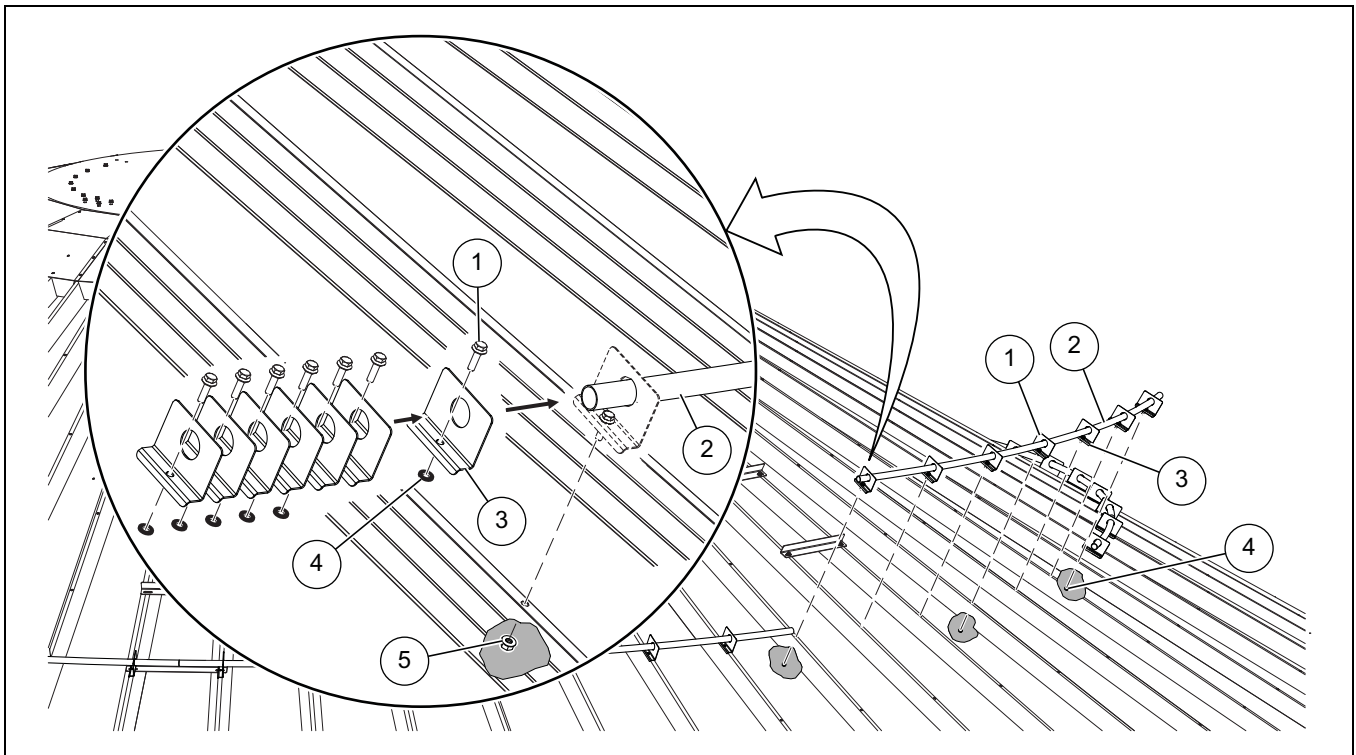

Figure 11E Roof Ring Shown
1. Determine the quantity of roof ring clips (3) needed for the roof ring section (2) being installed.
2. Install a 5/16" flange bolt (1) to the roof ring clip (3) and install a sealing washer (5) to the underside of the roof ring clip (3).
3. Slide each assembled roof ring clip (3) onto a roof ring section (2) and position each roof ring clip (3) over each roof panel rib.
4. Install a 5/16" flange nut (4) to each roof ring clip (3). (See Figure 11E.)